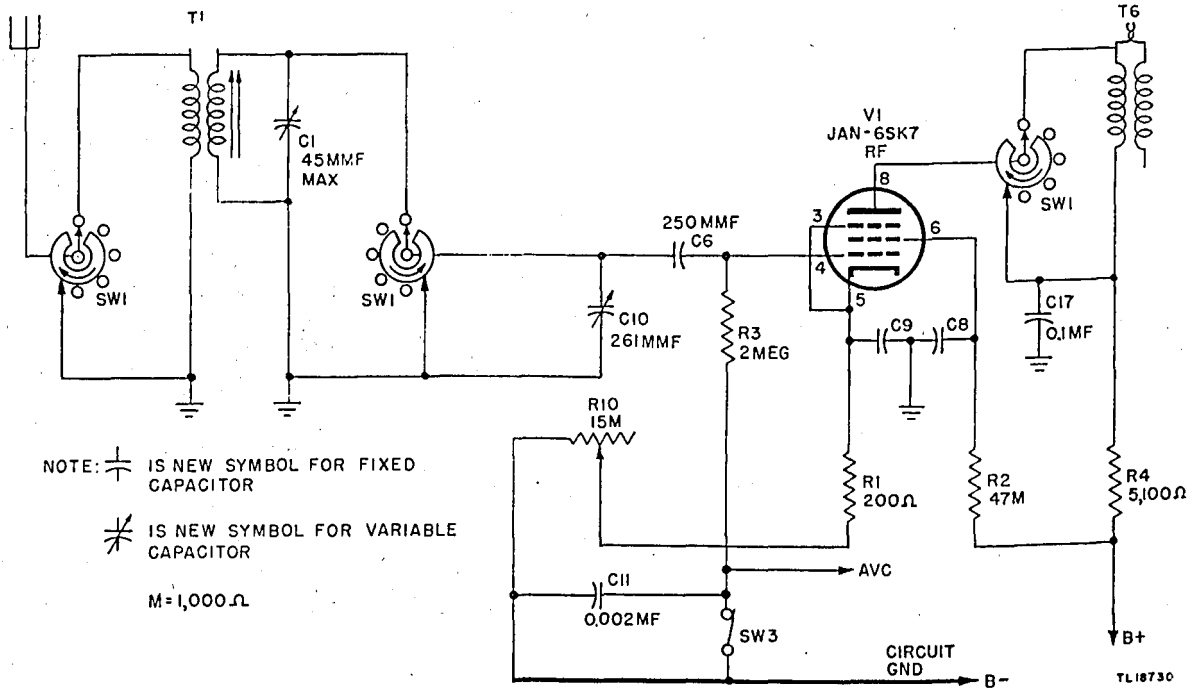

Figure 8. R-f amplifier, functional diagram.
a. The two r-f amplifier stages, the mixer stage, and the mixer oscillator operate on five wave bands. A ganged wave-band switch SW1 switches from one wave band to another. The first r-f amplifier stage is shown in figure 8. For convenience, only one of the five bands are shown on this diagram. The remaining four bands operate in a similar manner.
b. Figure 8 shows r-f transformer T1 (the coil for band 5) switched into the circuit. The secondary of the r-f transformer is tuned by capacitor C10 which is ganged with the tuning capacitors of the remaining r-f and oscillator transformers. Capacitor C1 is a r-f trimmer. A moveable metal-core inductor assists in aligning the low frequency end of the band. A-v-c voltage is applied through decoupling resistor R3 to the grid of the r-f amplifier. Capacitor C6 prevents grounding of the a-v-c line. A-v-c switch SW3 grounds the a-v-c line in the OFF position. Capacitor C11 is an a-v-c filter. The r-f gain control resistor R10 is a variable resistor in the cathode circuits of the two r-f and first i-f stages, controlling the amplification of these stages. Resistor R1 is the normal cathode bias resistor and is bypassed by capacitor C9. The screen voltage is reduced to its proper value by resistor R2 which is bypassed by capacitor C8. The untuned plate